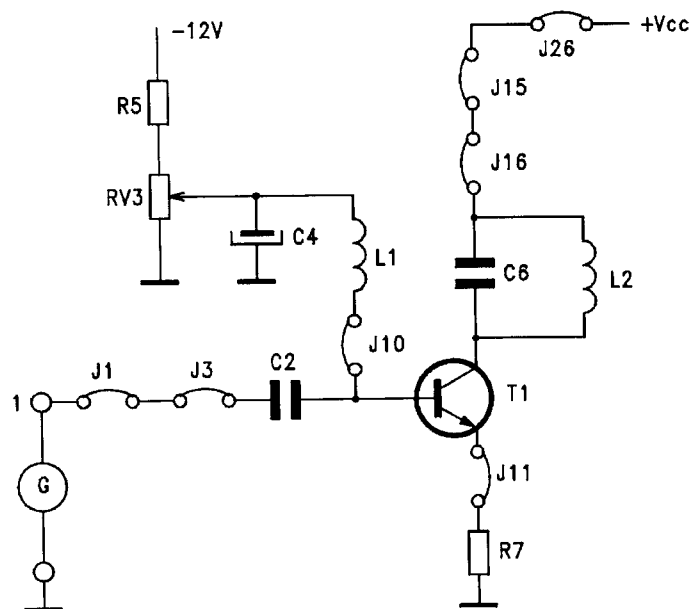

fig. B32.3
- Remove jumper J17 and insert J16, to produce the circuit of figure B32.3.